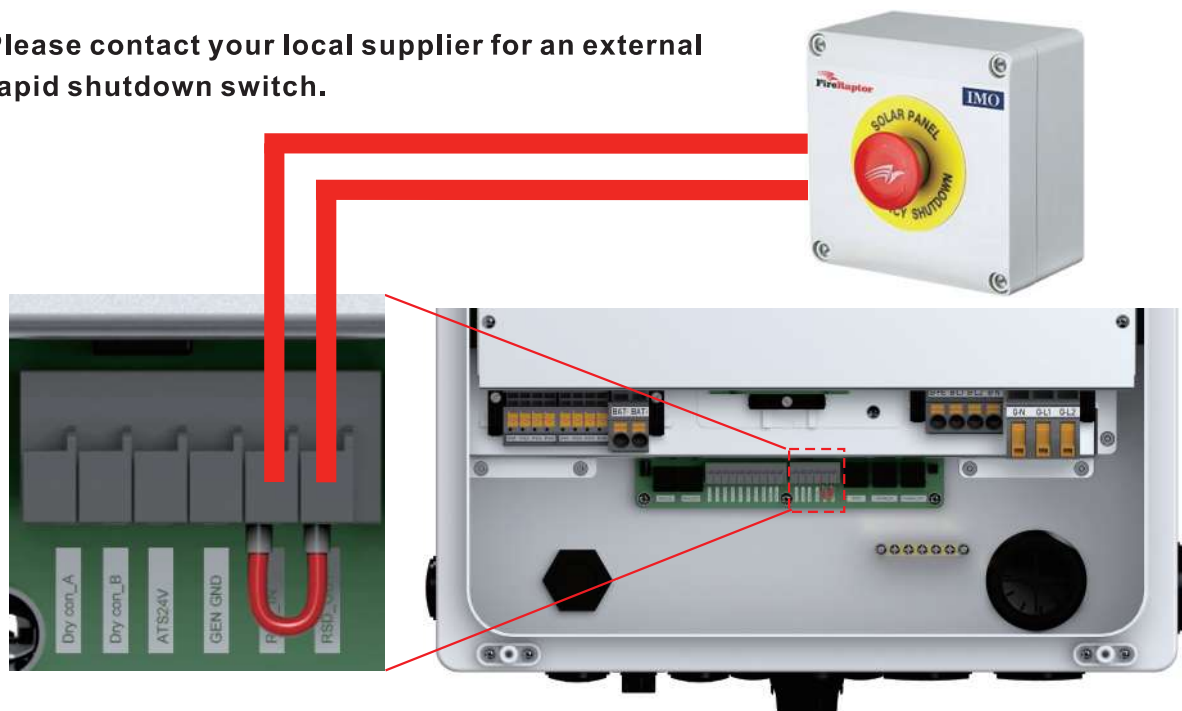

Figure 4.14 External RSD Initiation Switch
2. Remove the red jumper from the RSD\_IN and RSD\_OUT terminals (see Figure 4.14)
1. Disable the internal transmitter by removing the red jumper (see Figure 4.14)